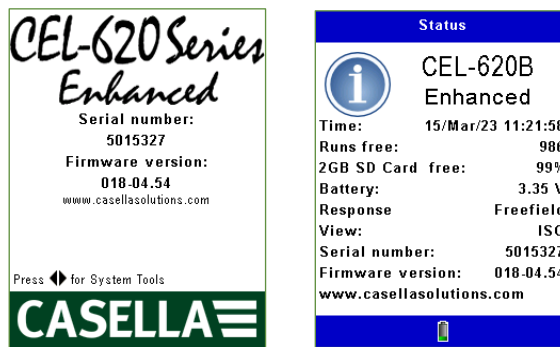
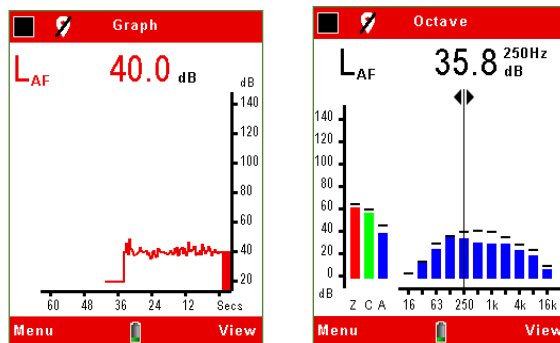

Figure 5
Figure 6
2. During the software initiation the start-up and status screen (figure 5) will display the firmware version (e.g. V018-03 indicates issue 3 of the firmware) and the serial number followed by the screens listed below (figure 6):